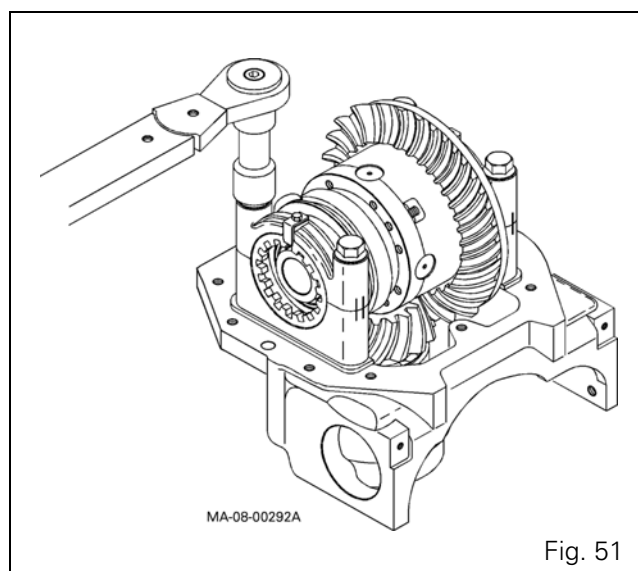

Fig. 51
56. Tighten the screws of the two half-bearings with a torque wrench to the required torque (266 Nm) (Fig. 51).